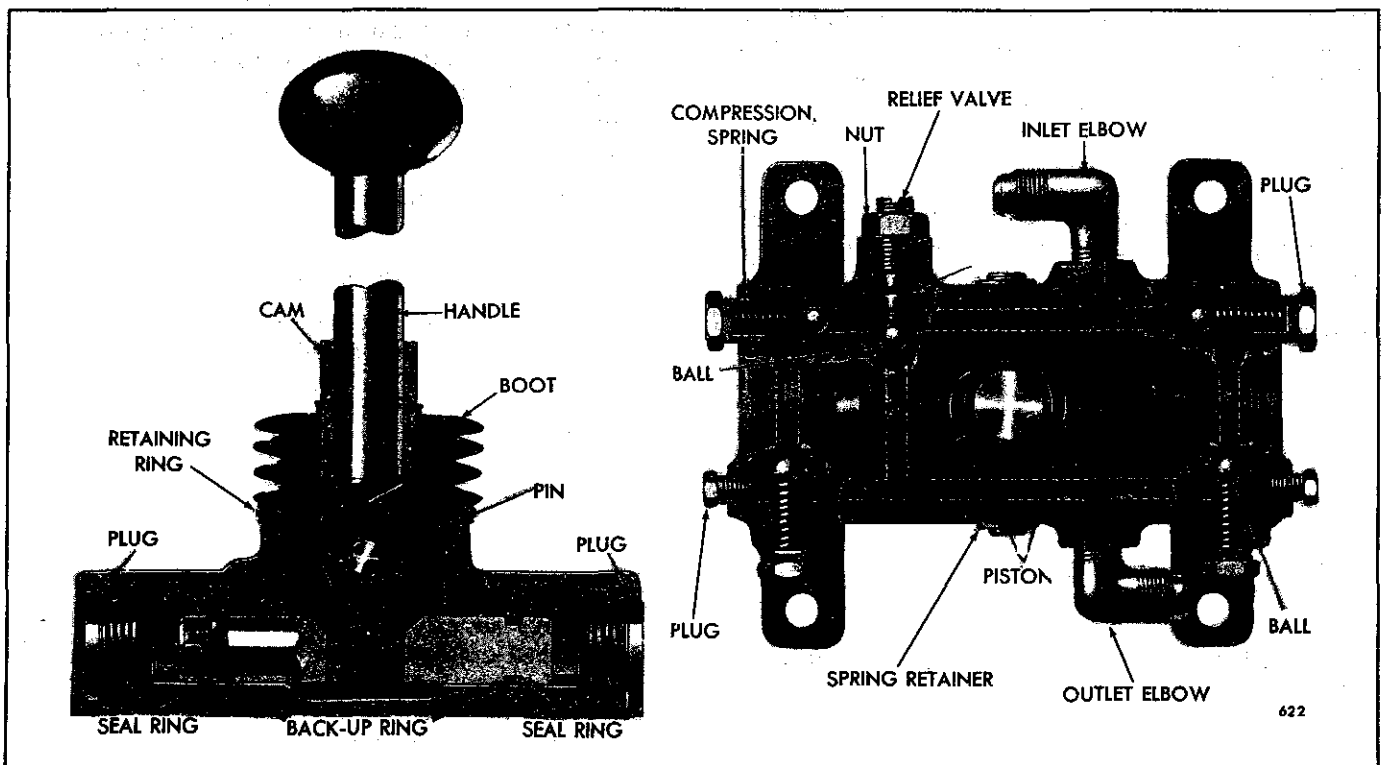

Fig. 19 - Cross Sections of Hydrostarter Hand Pump
The hand pump (Fig. 19) is a single piston double-acting positive displacement type. It is mounted in such a manner that the pumping action is never in a vertical direction and the handle clears all obstructions throughout its complete stroke. The handle may be removed and stored when the pump is not in use.
1. Release the pressure in the Hydrostarter system by opening the relief valve (Fig. 19) on the side of the pump approximately 1/2 turn.